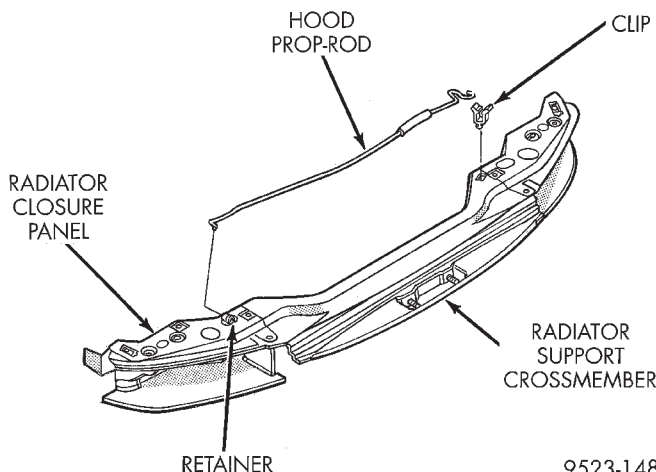

Fig. 5 Hood Prop Rod
- (2) Using a length of wooden dowel rod, prop hood open.
- (3) Disengage prop-rod from retainer holding prop-rod to radiator closure panel (Fig. 5).
- (4) Separate prop-rod from vehicle.